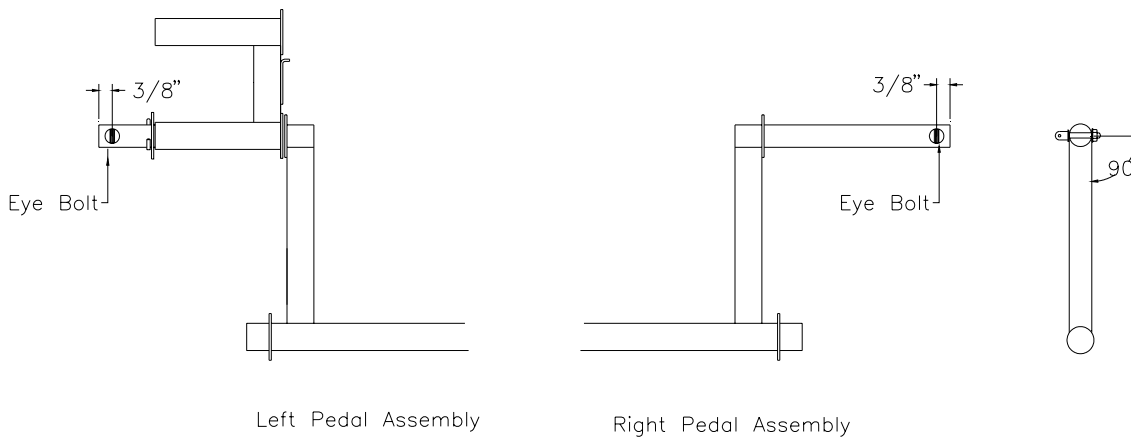

Figure 20.1.4
5) Drill #11 holes 3/8" in from the end ends of the rudder pedals. Insert eyebolts (AN42B-10A) and attach with fiber nuts (AN365-1032). Ensure that the eyebolts are approximately 90° to the rudder pedals. Figure 20.1.4.